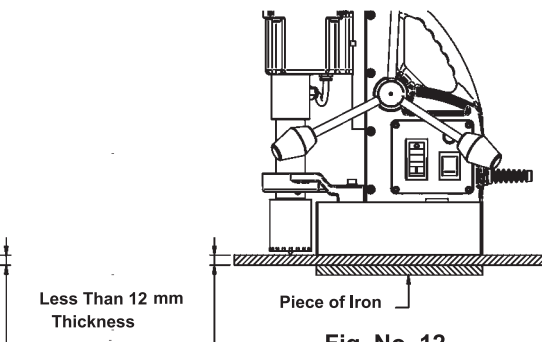

Fig. No. 12
- f) If workpiece under drilling is thin. use an iron plate larger than base as shown in (Fig. No. 12)